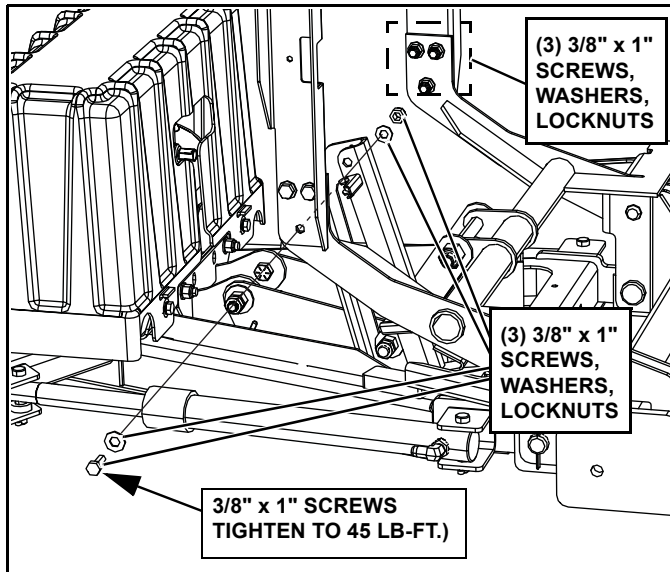
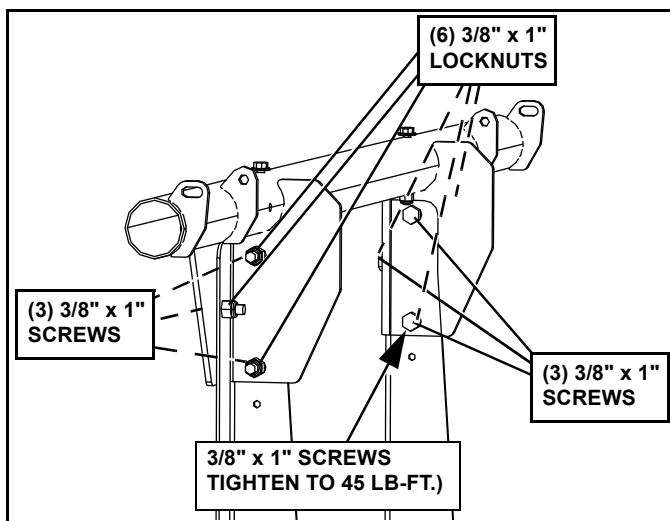

Figure 1-8
Figure 1-9
8. Remove left and right light support from power pack carton. Attach passenger's side light bar support to lift/light bar with (3) 3/8" x 1" screws, (6) washers and (3) locknuts from the light bar parts bag part number 96106089. On the driver's side use (3) 3/8 x 1" screw, (6) washers, and (3) locknuts from the parts bag. Do not tighten at this time. (See Figure 1-8)
9. Secure light bar to supports with (6) 3/8" x 1" screws and locknuts. Align light bar supports to vertical position and tighten all light bar hardware. Tighten screws to 45 lb-ft. (See Figure 1-8 and Figure 1-9.)